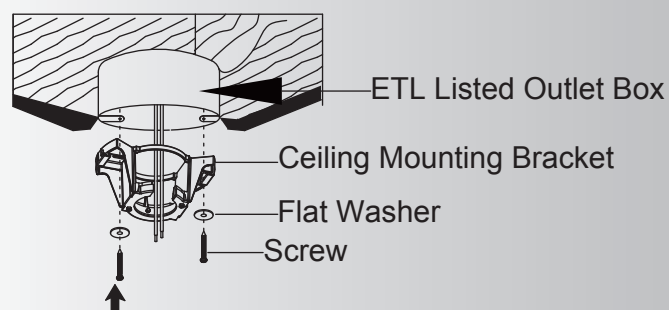

Fig. 5
Step 1. Before attaching fan to outlet box (not included), ensure the outlet box is securely fastened to at least two points to a structural ceiling member (a loose box will cause the fan to wobble). Pass the 120 volt supply wires from the ceiling outlet box through the center of the ceiling mounting bracket. Install mounting bracket to outlet box in ceiling using the screws and washers included with the outlet box or screws and washers in the hardware bag. (Fig. 5)